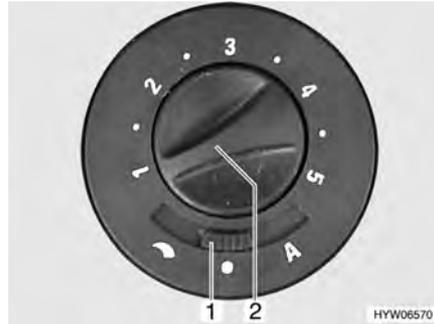

Fig. 120 Operating switch for circulation fan
- Set sliding switch (Fig. 120,1) to "☾" (manual control) or "A" (automatic operation).
- Turn the knob (Fig. 120,2) to set (manual control) or limit (automatic operation) the power of the circulation fan.
- Set sliding switch (Fig. 120,1) to "●" (off).